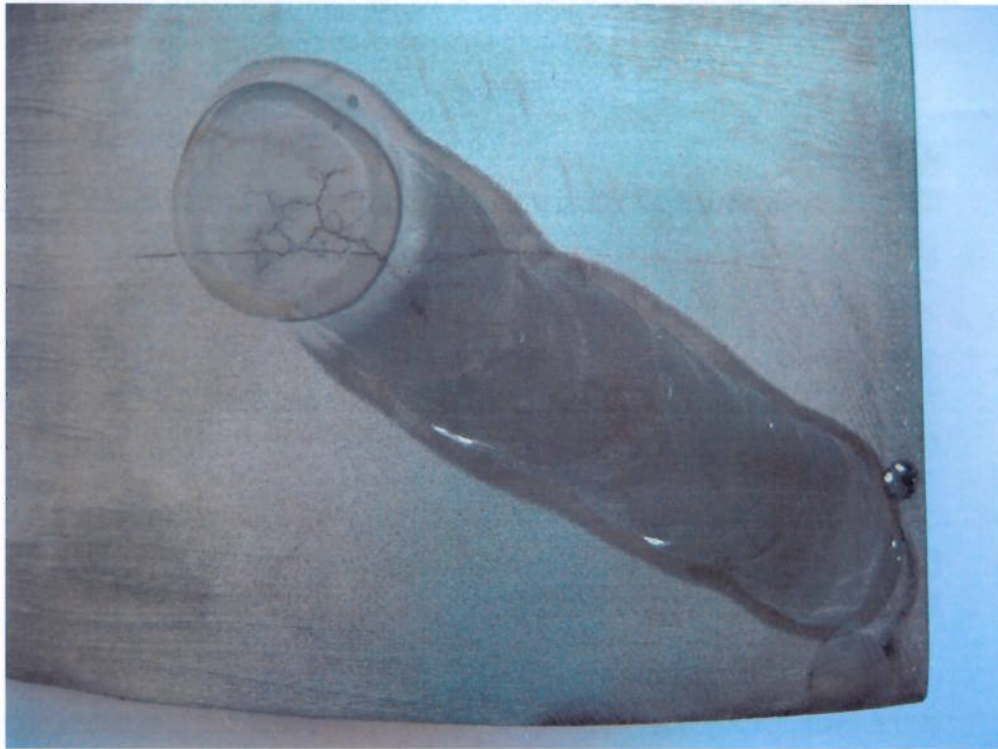

Figure 1 Typical appearance of a weld repair on an axle
- e). Visually inspect the axle (welded repairs will appear as per Figure 1).